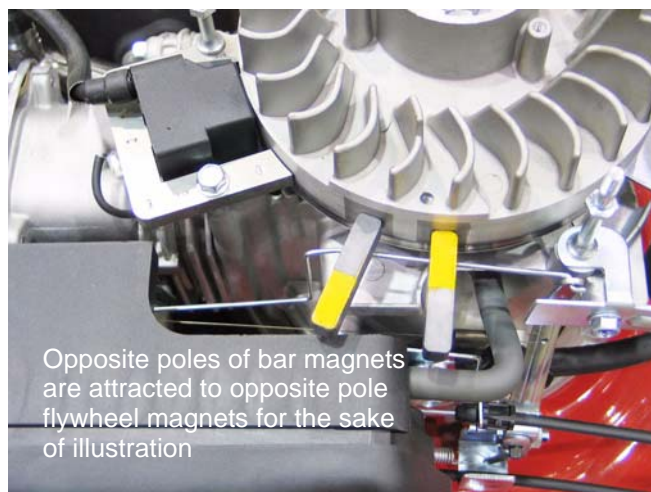

Figure 7.24
7.24. An inexpensive compass or bar magnet can be used to confirm opposite polarity of the flywheel magnets. See Figure 7.24.